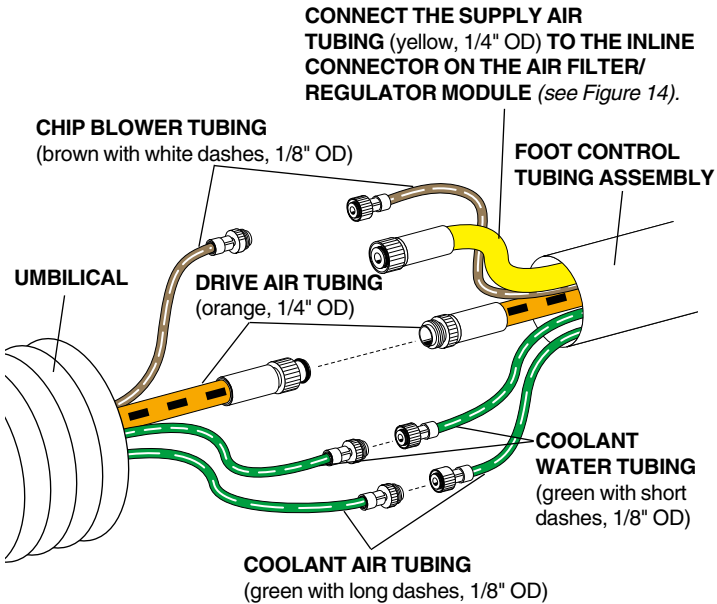

FIGURE 20
- Make all plumbing connections, and channel all tubing, as shown in Figures 20 through 26 (on pages 8 through 13).
1. Reconnect the foot control tubing to the corresponding tubings coming from the umbilical (see Figure 20). These tubings are color matched and have inline connectors attached. No tools are required to connect the inline connectors.
1. Connect the tubings coming from the utility modules to the umbilical using the factory installed inline connectors (refer to Figures 20 to 26 on pages 8 through 13 for plumbing variations). Compare tubing size, color, and dash/stripe pattern and connect those that match.